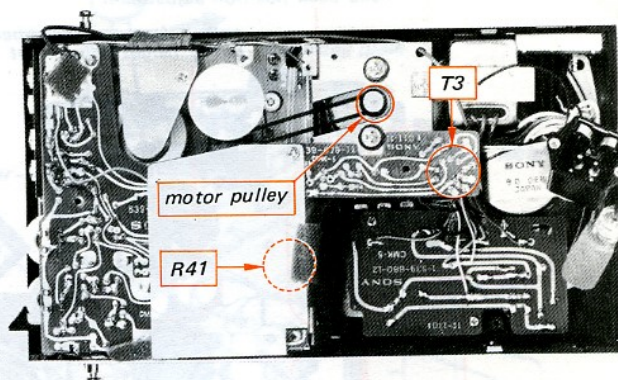

Fig. 3-2-2. Adjusting parts location
Motor pulley (see Fig. 3-2-2 and 3-2-3.)	Reading on frequency counter shall be between 985 & 1,015 Hz. If the frequency is lower than 985 Hz, replace the motor pulley with the new one which has the outer diameter of 4.3 mm. If higher than 1,015 Hz, replace the motor pulley with the new one which has the outer diameter of 4.1 mm.
Bias oscillator transformer T3 (see Fig. 3-2-2.)	1. Deliver 1 kHz, 150 Hz and 6 kHz signals of -80 dB (0.078 mV) to the MIC jack in order. 2. Record the signals on a blank tape cassette. 3. Play back the 1 kHz signal. 4. Adjust the VOL control to obtain -10 dB (0.245 V) on the VTVM. 5. Play back the 150 Hz and 6 kHz signals and memorize the VTVM reading. 6. Be sure that the difference between the Step 4 and Step 5 is within 6 dB on the VTVM. 7. If not, adjust by changing the tap of bias oscillator transformer T3.
100 k Ω (B) (see Fig. 3-2-2.)	1. Place the unit in the playback mode. 2. Adjust the Resistor R41 so that the pointer of the level meter is just at the boundary between the red and the black portions.